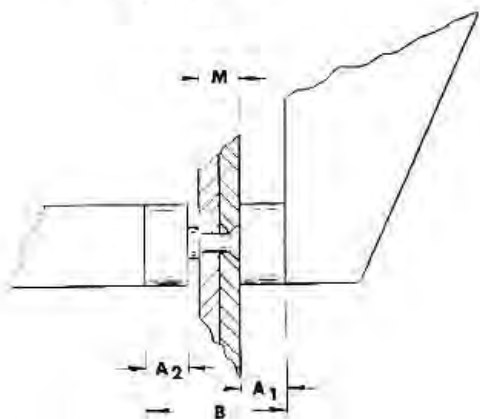

FIG. 6
(C) Driving a flat head on a countersunk manufactured rivet (figure 6).